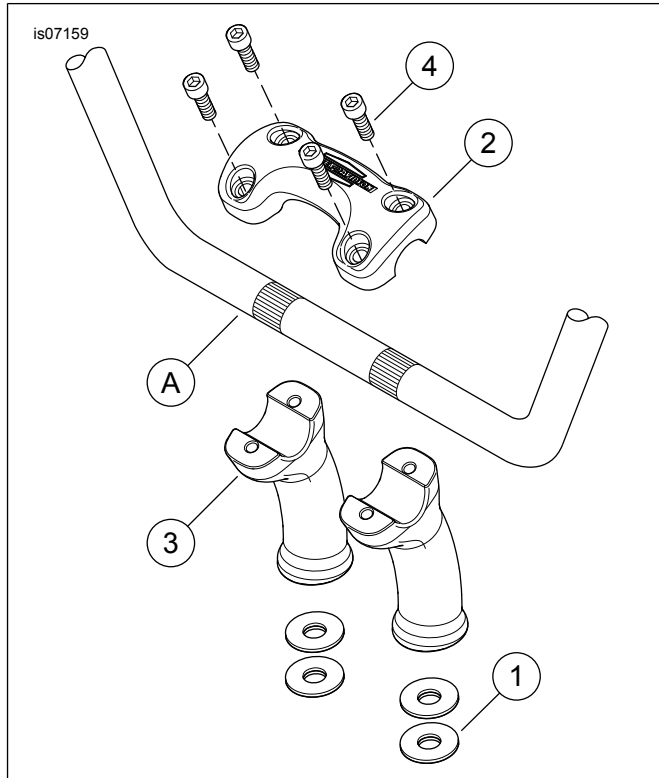

Figure 1. Service Parts: Pullback Riser Kit Shown
See Figure 1 and Table 1.
- a. **For 2005 and earlier FXDL models:** See Figure 1. Install two flat washers (1) immediately below each riser.
- b. **For 2005 and earlier FXST and FXSC models:** Install one flat washer (1) immediately below each riser.
- c. **For all other models:** Discard flat washers (1).
- a. Hand-tighten two front screws (4).
- b. Snug the two rear screws (4).